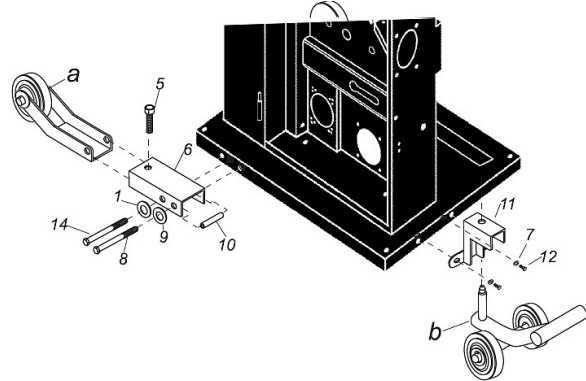

Fig. 16: Installation of travelling device
Step 1: Screw the U-shaped bracket (pos.6, fig.16) to the front wheel set assembly (pos. a, fig.16).
Step 2: Fix hexagon bolt M10x70 (pos.14, fig.16) with washer (pos.9, fig.16) and sleeve (pos.10, fig.16) to the band saw base.
Step 3: Fix the rear castor frame (pos. 11, fig. 16) to the lower frame of the bandsaw with two hexagon bolts M10x20 (pos. 12, fig. 16) and washer (pos. 7, fig. 16).
Step 4: When moving the bandsaw, adjust the Allen screw M12x50 (pos. 5, fig. 16) and raise the bandsaw approx. 5 mm above the ground.
Step 5: Insert the driving device (pos. b, fig. 16) into the castor frame (pos. 11, fig. 16), press the lever down to be able to move the bandsaw.